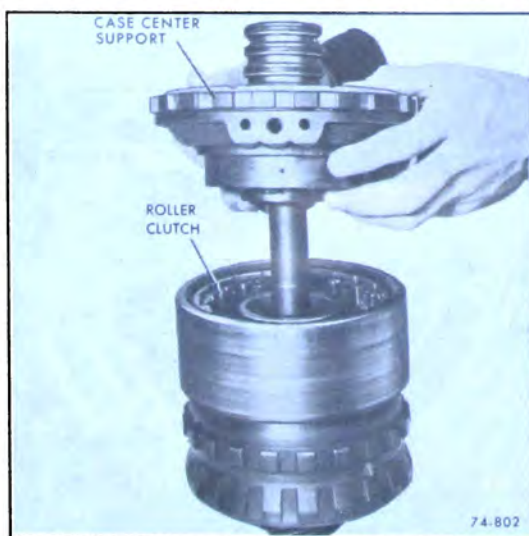

Figure 74-558
1. Remove case center support assembly. See Figure 74-558.